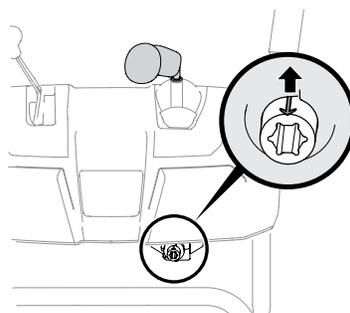

Figure 2-23
5. Rotate joystick to one o'clock position so that indicator arrow on pinion gear below control panel faces upward. See Figure 2-23.